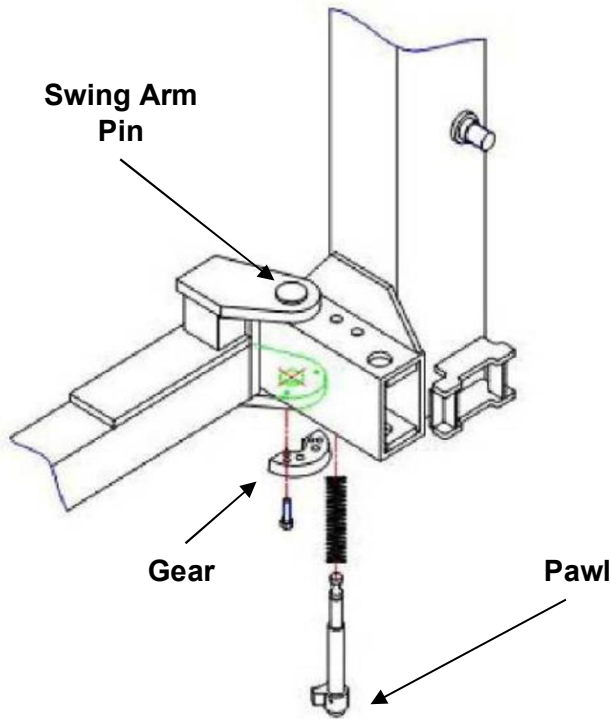

Fig. 13a
- A. Position the arm restraint gears with pin against the bottom of the arms in the orientation shown in Fig.13a. Attach the gears to the arms with bolts. Do not tighten at this time.
C. Install the swing arms to the carriages using the pins, as shown in Fig. 13a & b. Secure pin to carriage with clip at bottom of pin.